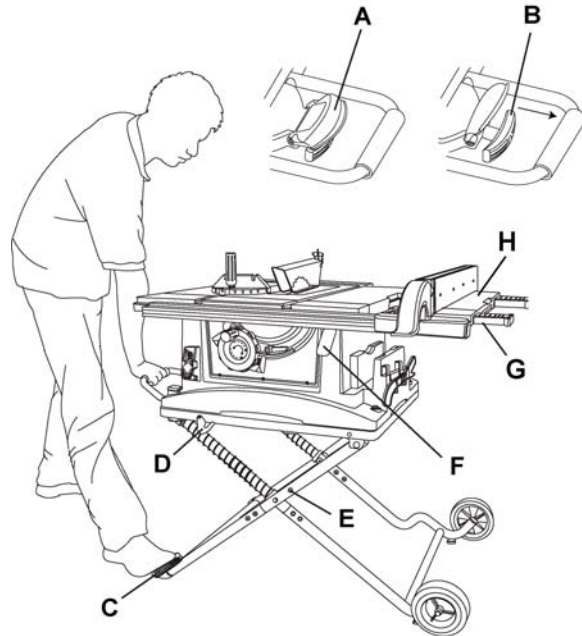
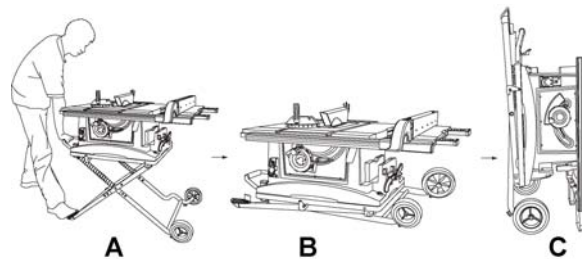

Figure 16
Figure 17
Referring to Figure 16:
1. Raise the *handle cover* (A, Fig. 16) first and pull the *locking handle* (B, Fig. 16) out.
2. Push slowly downward on the stand (A, B, Fig. 17).
3. Release the *locking handle* (B, Fig. 16).
4. Rotate the *stand hook* (D, Fig. 16) onto the stop screw to secure the stand legs into the collapsed position.
5. Secure the side extension table (H, Fig. 16) by pushing the cam locking lever (F, Fig. 16) downward.
Note: For convenient storage, there are two *stand up supports* (G, Fig. 16) on the right side of the table saw for supporting the table saw when not in use (C, Fig. 17).